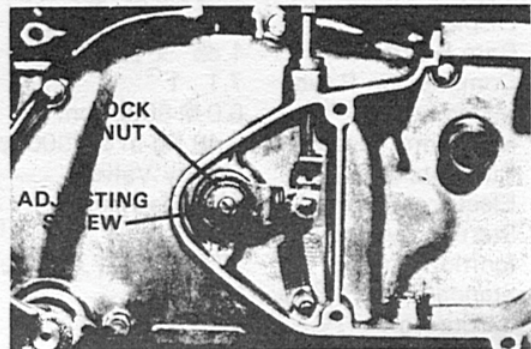
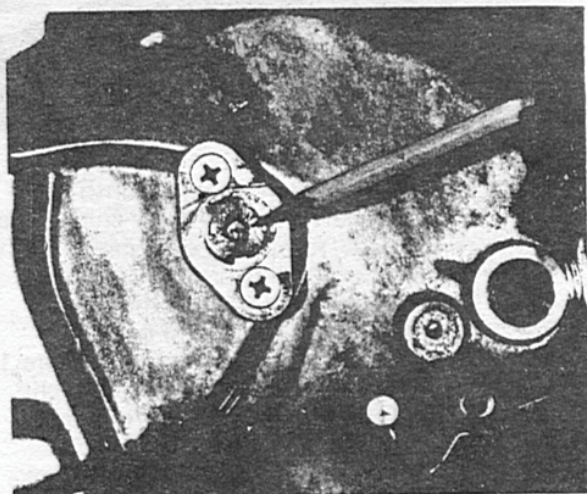

Fig. 3
Fig. 18
9. Remove the clutch release arm lock nut and washer and remove the clutch release arm from the release screw. (Figure 3)
24. If the clutch release push screw has been removed from the transmission cover, reinstall it from the inside so that the flats of the screws (as seen from the outside of the transmission cover) are in a relatively horizontal position with the back of the release push screw flush with the inside of the transmission case cover. (Figure 3) Be certain that the thrust bearing has been liberally coated with grease and inserted into the push screw. (Figure 18)